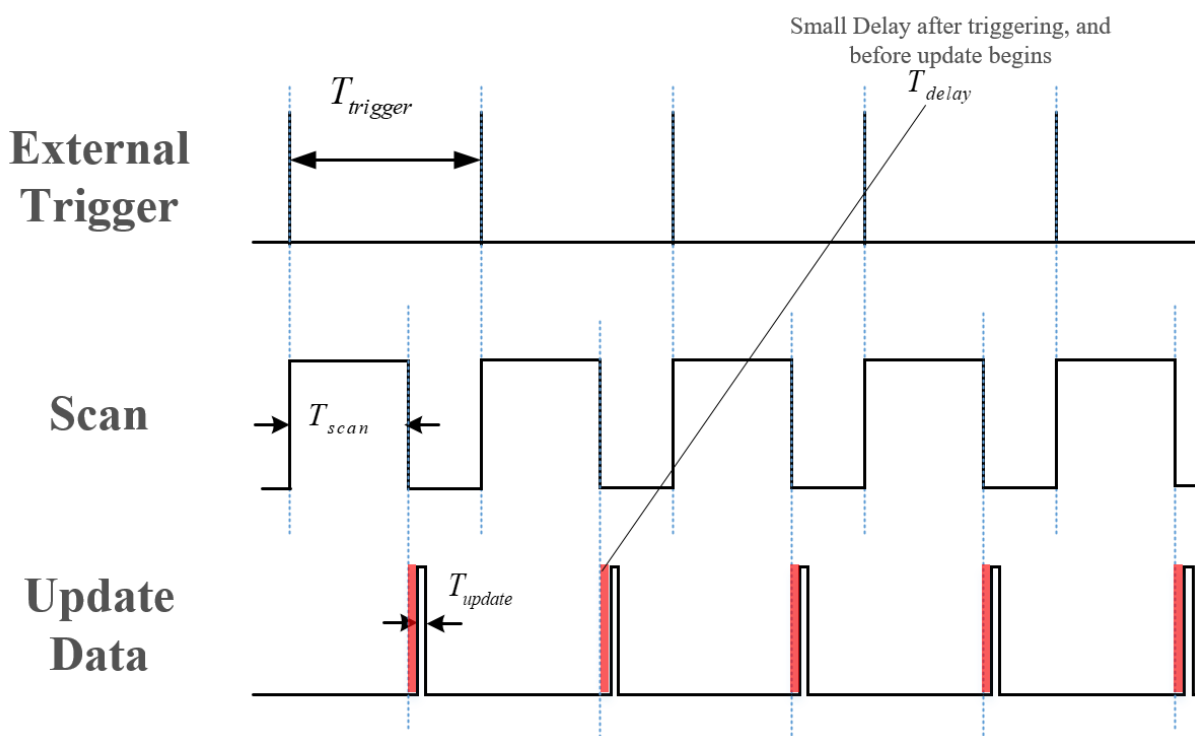

Figure 2: External Trigger Timing Diagram (timing not to scale)
- A slight delay occurs until the main application detects that the flag has been set (red bar in Figure 2.).